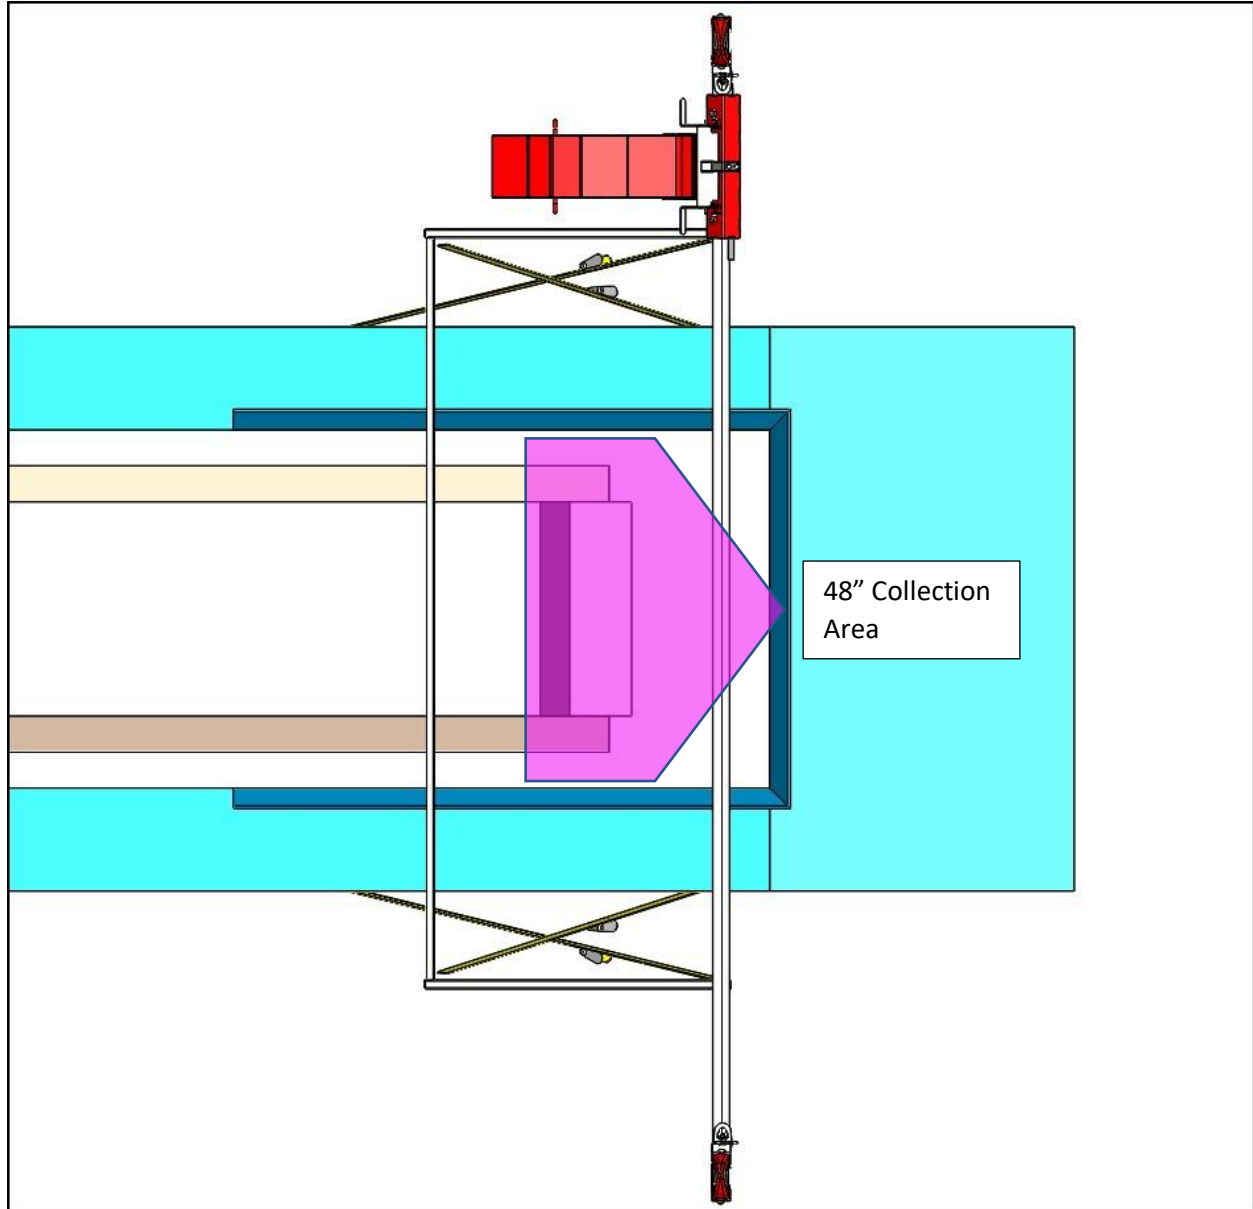

Figure 5 – Showing Collection Area (Pink)
- Care must be taken to center the M-500 from side to side in the stream from which it is sampling. Centering the M-500 over the center 48" area is important to collect a proper sample (including any material coming off a belt scraper if applicable). See Figures 5 and 6.